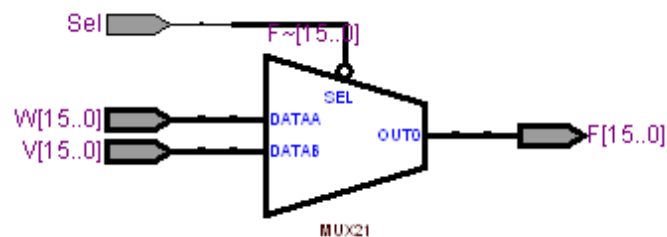

Figure 30: The multiplexer subcircuit.
- Details of subcircuits can be seen by clicking on the box that represents a subcircuit. Select the Selection Tool from the left hand toolbar (above the Zoom Tool), and double-click on the *mux2to1* box to obtain the image in Figure 30. It shows the multiplexers used to choose either the *Areg* or *Z* vector as one of the inputs to the adder, under control of the *Sel* signal. Observe that the multiplexer data inputs are labeled as specified in the Verilog code for the *mux2to1* module in part *b* of Figure 12, namely as *V* and *W* rather than *Areg* and *Z*.